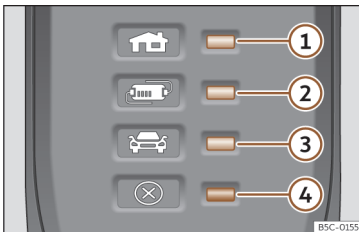

Fig. 55 On the charging cable for power sockets: Indicator lamps on the protection device.
» **Fig. 55:**
The electronic protection device»» **Fig. 55** ensures that the charging connector does not receive current until it is plugged in to the vehicle's charging connector.
One or more indicator lamps»» **Fig. 55** ①, ② or ③ light up green.
Display»» Fig. 55	Meaning
If the charging process continues with a lower current, both the operating indicator and the warning lamp»» Fig. 55 ④ flash red.
- If it disconnects again, or the charging current reduces and the cause does not seem to be exposure to an external heat source, make sure that the green control lamp is flashing»» Fig. 55. Visit a specialised CUPRA dealer or any SEAT network dealer to check the charging cable. Get an establishment that specialises in electrical installations to check the infrastructure connection.
If the red warning light ④ flashes or turns on without one of the indicator lamps»» Fig. 55 ①, ② or ③ also turning on continuously on the status indicator, there is a fault.